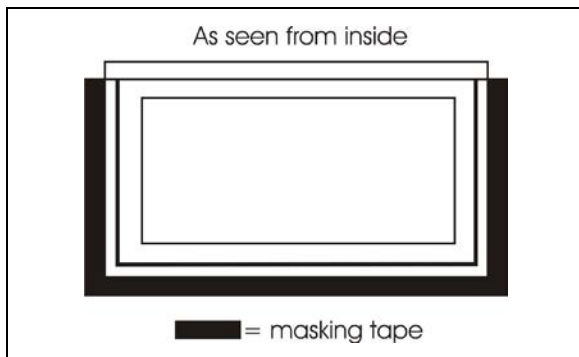

FIGURE 63 : MASKING TAPE APPLICATION
- Place masking tape on the inside of the frame as per FIGURE 63